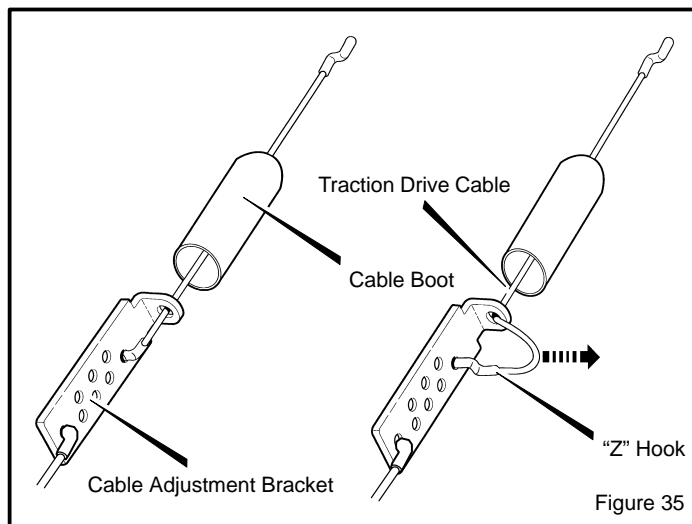

Figure 35
5. Slide the **cable boot** off the **cable adjustment bracket** (see Figure 35).